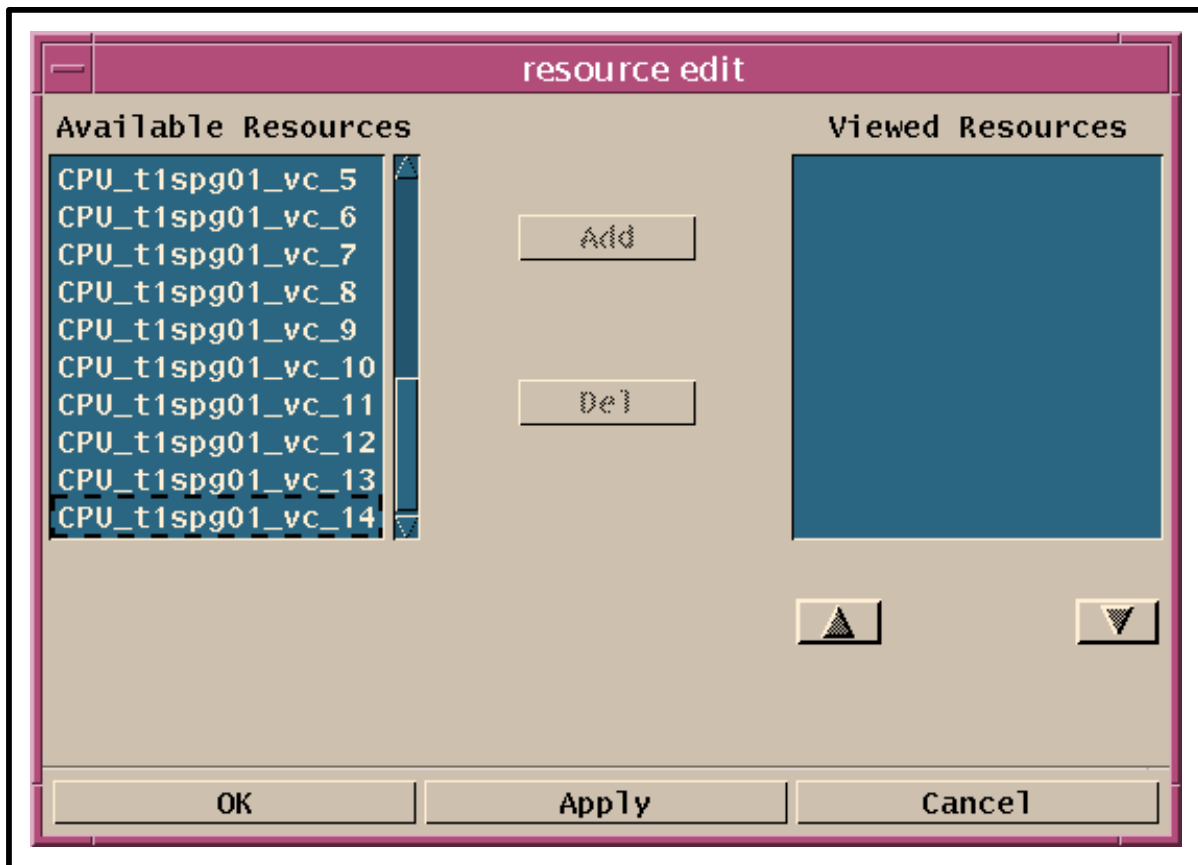

Figure 47. Resource Edit Window
- The **Resource edit** window (Figure 47) is displayed.